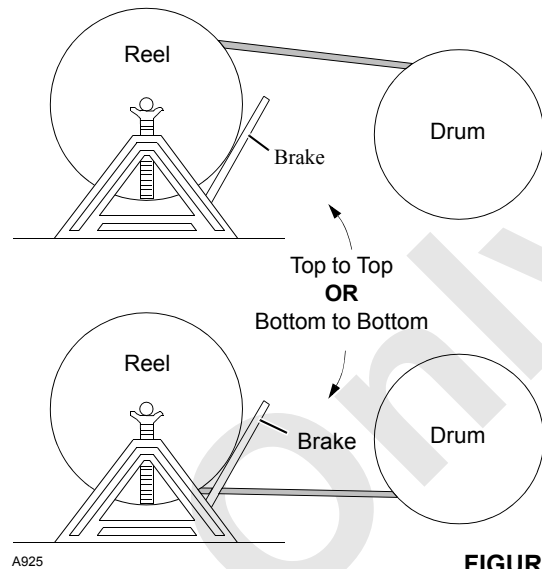

FIGURE 4-53
2. Provide a brake at shipping reel (see Figure 4-53) so wire rope can be wound tightly onto drum.
3. Avoid a reverse bend when winding wire rope onto drum: wind from top of reel to top of drum or from bottom of reel to bottom of drum as shown in Figure 4-53.